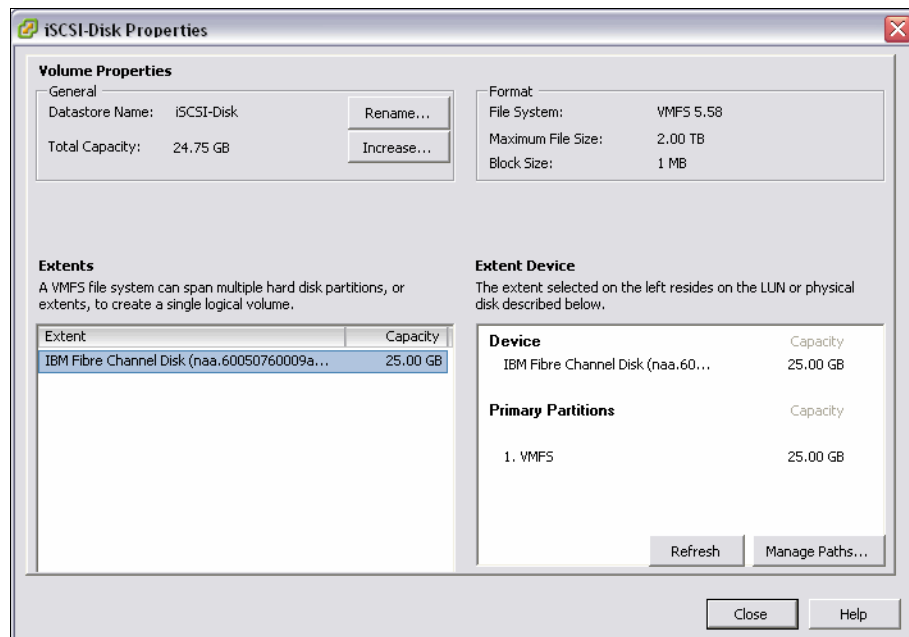

Figure 5-75 Data store properties
15. Highlight the new data store and click **Properties** to open and review the data store settings, as shown in Figure 5-75.